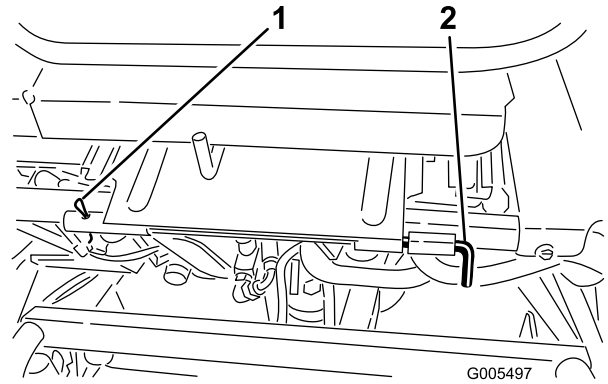

**Figure 8**
7. Mount valve shield to the right side of the seat base with 2 carriage bolts (5/16 x 5/8 in.) and nuts. Position the shield as shown in Figure 8.